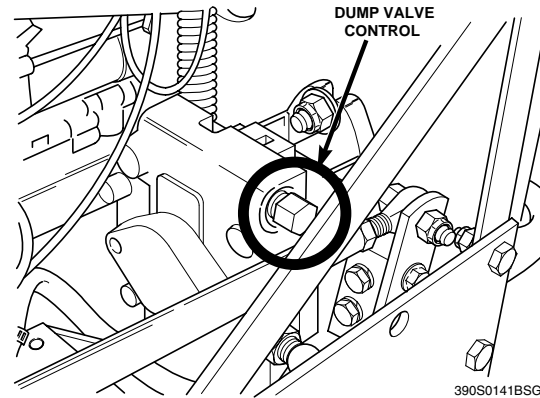

Figure 4-2 Dump Valve Control
14. **Dump Valve Control Levers (Figure 4-2).** Located on the hydraulic pumps, used to "free-wheel" the mower. Rotating the levers clockwise until they stop allows the unit to move under hydraulic power. The levers must be in this position and torqued to 10ft/lbs during operation of the mower. Rotating the levers counter-clockwise allows the mower to be moved by hand (free-wheeling).